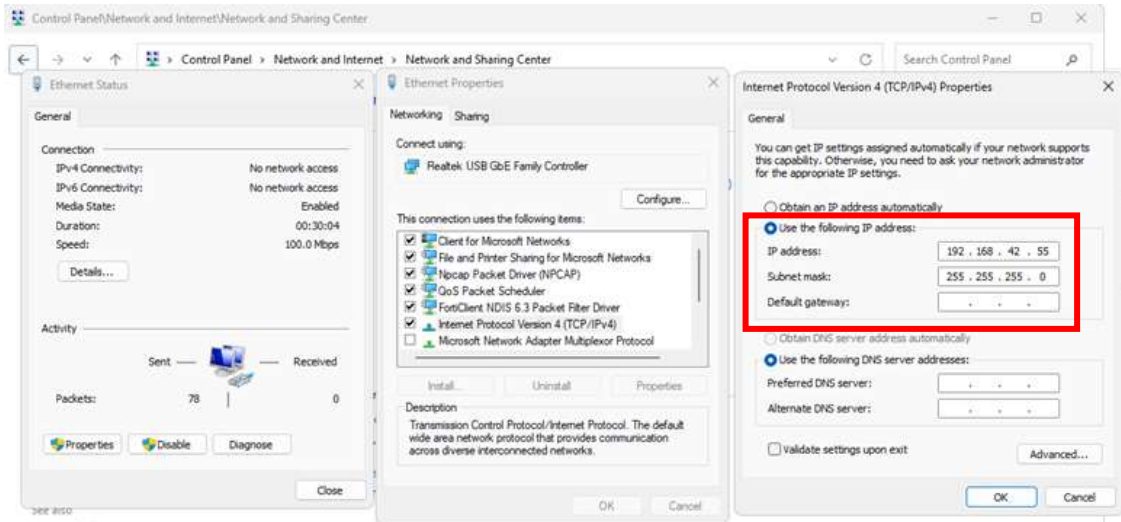

Figure 27. PC IP settings
4. Configure the IP Address of the user PC's Ethernet interface as shown in Figure 27.